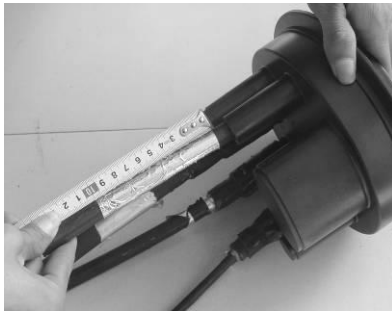

Figure 5
C. Fix the core wire and cable (Figure 5)